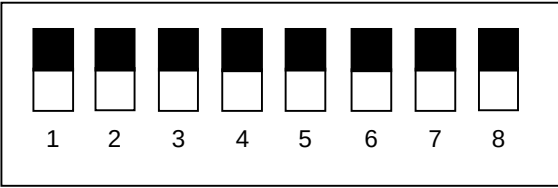

Figure 6.5.4 DIP switches (Being set for Standard setting)
(3) Set the DIP switch No.4 as shown in Figure 6.5.4.